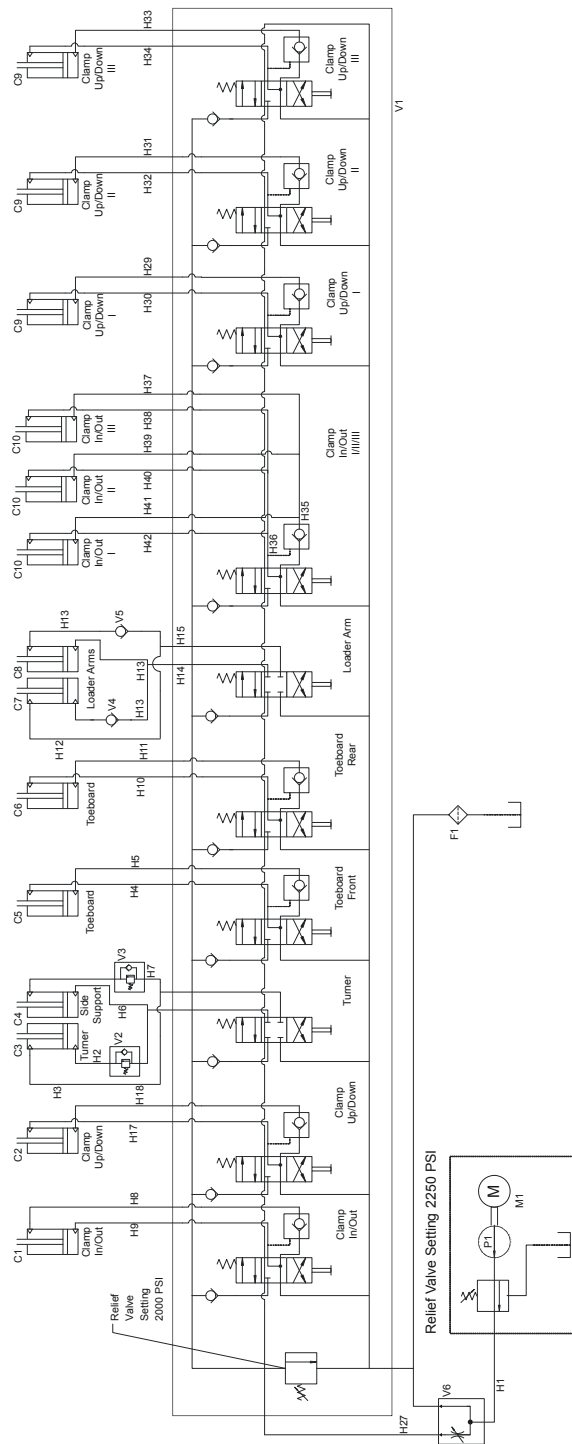

FIG. 1-1
1.18 LT40 Series AH5 Hydraulic Schematic**FIG. 1-1**